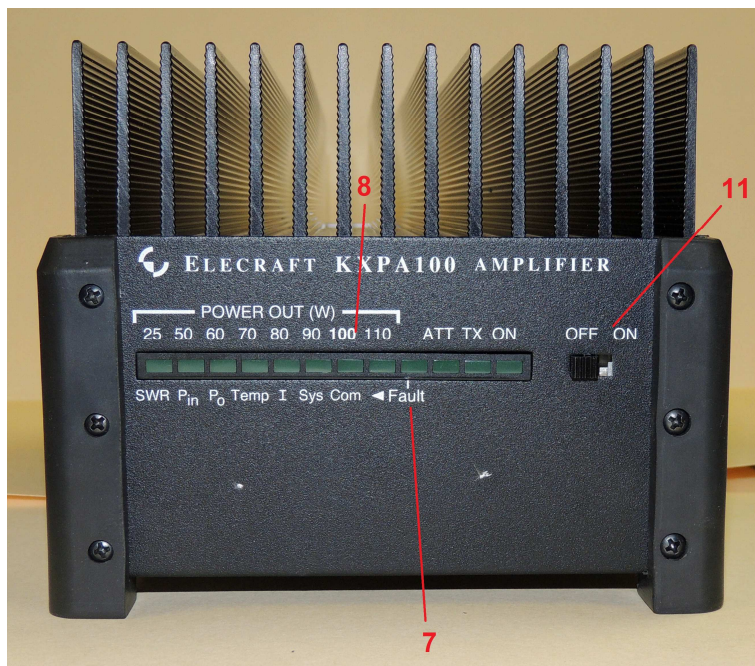

Figure 2. KXPA100 Front Panel.
2. Enable the power supply by sliding the front panel switch (Figure 2, {11}) to the On (I) position. The POWER LED should light.